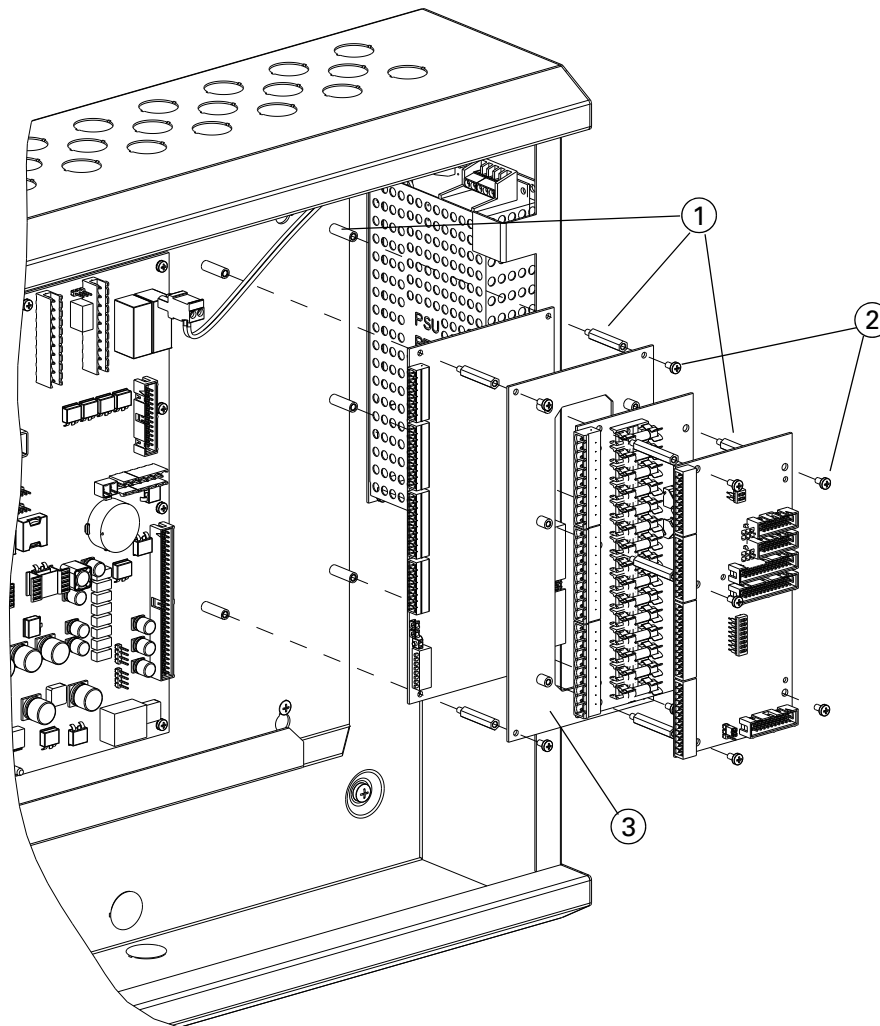

Fig. 28: Mounting Boards on a FC702S Panel
You can mount the PNI800, IOB800, and the FB800 boards on the FC702S panel using the pillars, washers and nuts that are supplied with the boards. A maximum of three of these boards can be fitted. Ensure that you fit the larger boards (such as the PNI800) before small boards (IOB and FB800). The old cards holder (120.008.130) is supplied with the optional P-EXP Panel Expansion Kit (557.202.807). Refer to Fig. 28 and complete these steps:
- 3 Put the first board on top of the pillars provided (item 1 in Fig 28). Secure the board using washers and screws if this is the only board being used, or a pillar, if you are inserting more boards. If fitting a PNI800, connect the 50way connector closest to the FC-FI to the connector on the PNI800 PCB. If you fit a second board of this type, use the next 50way connector for this board.
- 4 If you are using one or more small boards (for example, the IOB800 or FB800), use the adapter plate (item 3 in Fig. 28). Screw the adapter plate into the last big board in the sequence, or directly onto the back wall of the housing panel if there are no larger boards. Use the washers and screws provided.